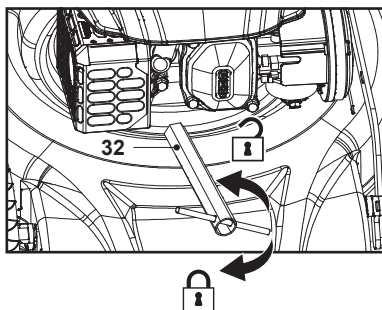

Fig. 26
2. Loosen the spark plug (17a) anti-clockwise using the spark plug wrench (32) and remove it carefully (Fig. 26).